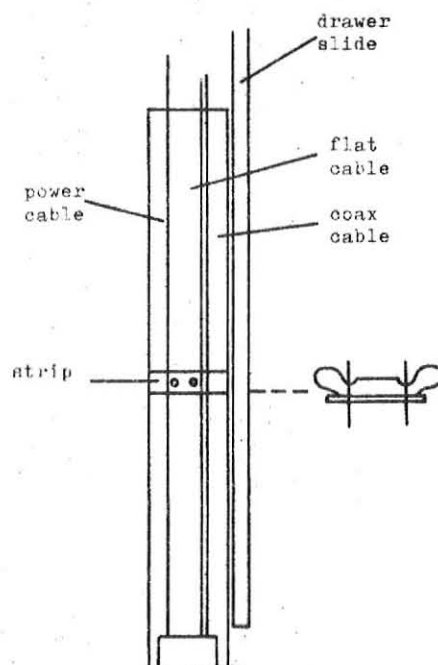

Figure 10-2 CABLE CONNECTIONS
### 1.3 INTERFACE CONNECTIONS (figure 10-2)
1. Refer to the figures 10-2 and 10-3, and install the interface cable.
Interface cable and power cable must be fastened as shown in figure 10-2.
### 1.4 POWER CONNECTION (see fig. 10-2 and 10-3)